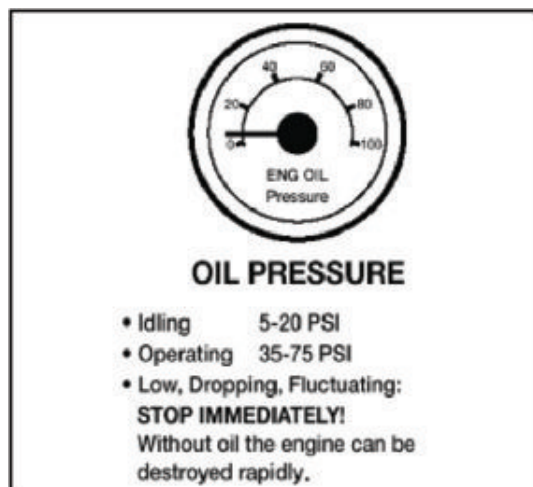

Figure 2.5
- Oil pressure should come up to normal within seconds after engine is started. See Figure 2.5.